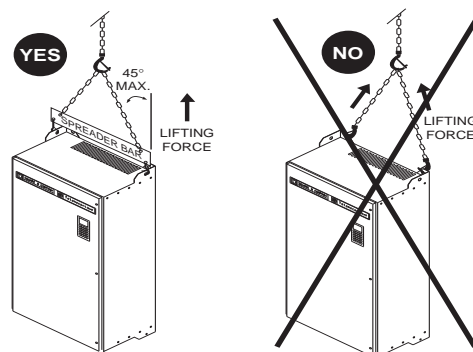

Figure 4: Hoisting ATV56D54N4 to D79N4 and ATV56D46M2
- With a hoist, attaching a spreader bar to the two lifting rings on top of the drive controller (see Figure 4) or
Keep area below any equipment being lifted clear of all personnel and property. Use lifting method shown below in Figure 4.
To hoist the drive controller, attach a spreader bar to the two lifting rings on top of the drive controller, as shown in Figure 4. Handle the drive controller carefully to avoid damage to the internal components, frame or exterior. Place the drive controller in an upright position.